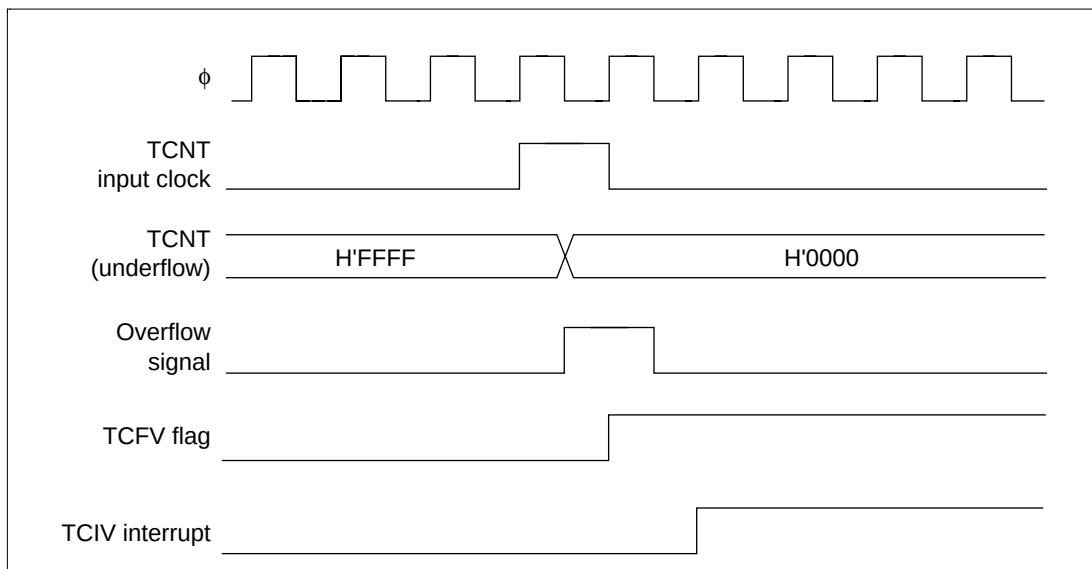
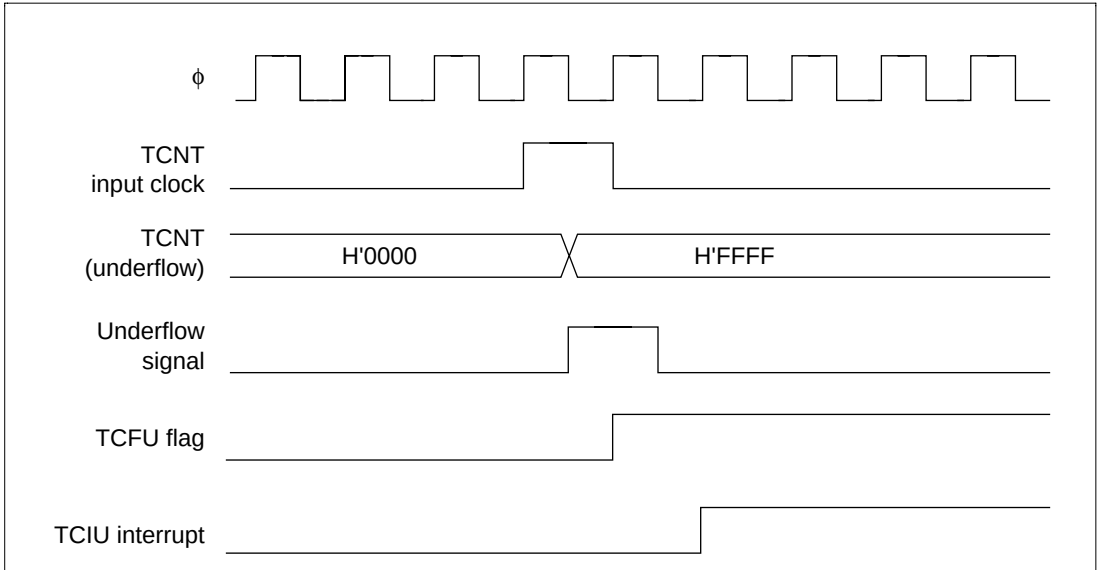
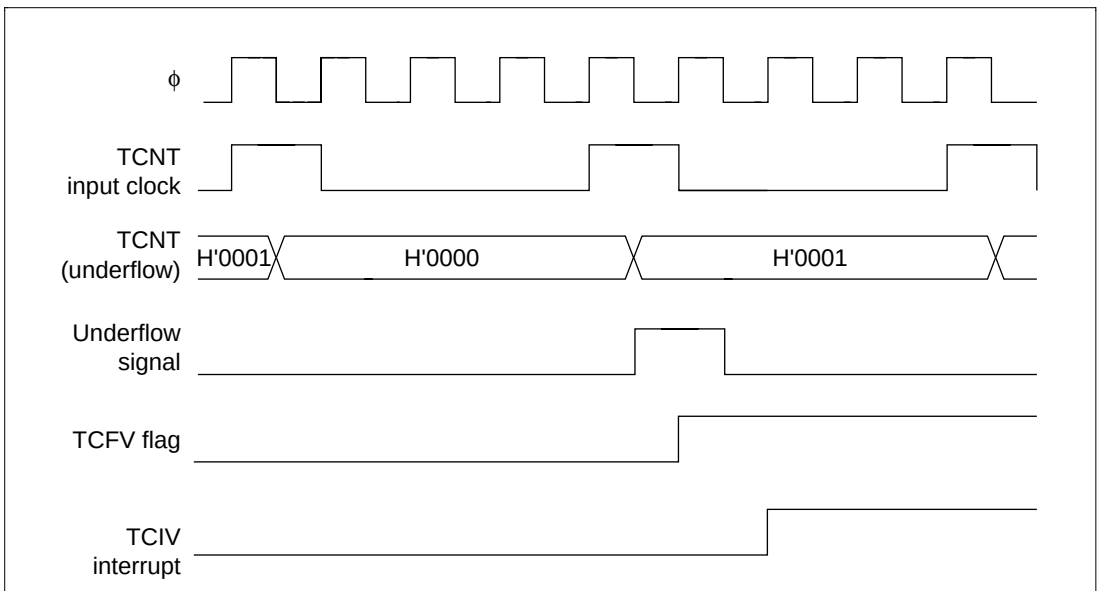

**Figure 12.71 TCIV Interrupt Setting Timing**
**Figure 12.72 TCIU Interrupt Setting Timing**
**Figure 12.73 TCIV Interrupt Setting Timing (TSR4, Complementary PWM Mode)**
**Setting Timing for Overflow Flag (TCFV)/Underflow Flag (TCFU):** Figure 12.71 shows timing for the TCFV flag of the timer status register (TSR) due to overflow, as well as TCIV interrupt request signal timing. Figure 12.72 shows timing for the TCFU flag of the timer status register (TSR) due to underflow, as well as TCIU interrupt request signal timing. Figure 12.73 shows timing for the TCFV flag of TSR4 due to underflow in complementary PWM mode, as well as TCIV interrupt request signal timing.